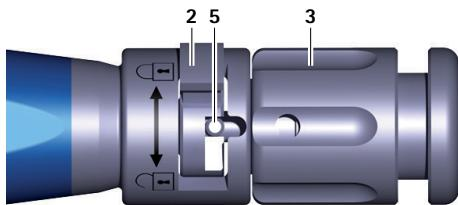
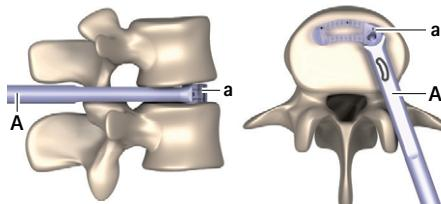

Fig. 3 Close-up view of the insertion instrument, switch closed
Fig. 11 Implant in end position
- ▶ Turn the switch 2 to the right (direction), see Fig. 3.
- ▶ Turn the rotary nut 3 counterclockwise ("forward" direction), until the pin 5 is fully in the switch 2, see Fig. 3. When doing so, ensure that the pin 5 does not jam the switch 2.
- ▶ Turn the switch 2 to the right (\rightarrow direction), see Fig. 3.
- ▶ As soon as the end position (see Fig. 11) is reached: Turn the rotary nut **3** counterclockwise ("forward" direction), until the pin **5** is fully in the switch **2**, see Fig. 3. When doing so, ensure that the pin **5** does not jam the switch **2**.
- ▶ Turn the switch 2 to the right (↗ direction), see Fig. 3.